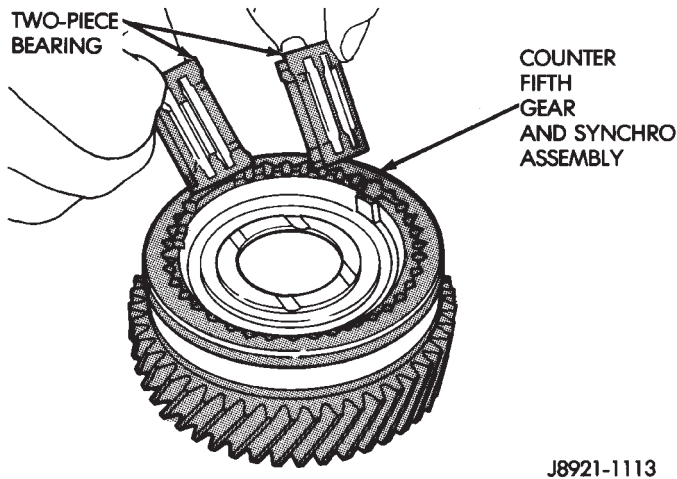

Fig. 97 Install Countershaft Fifth Gear Bearings
(28) Install countershaft fifth gear bearing halves into countershaft fifth gear assembly (Fig. 97).